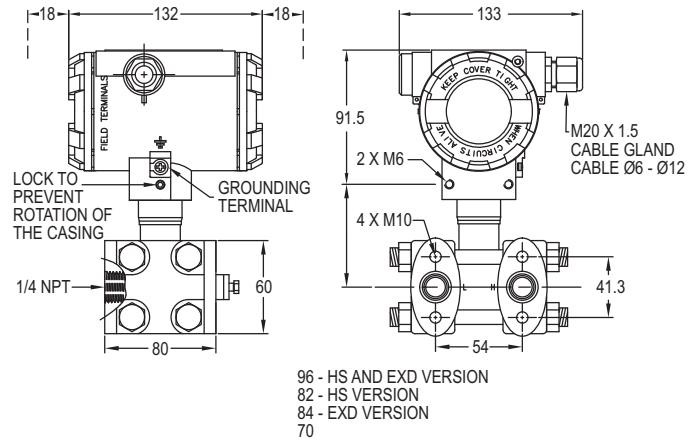

Figure 1 - Series 3500 differential pressure transmitter
8.2.2. The Series 3500 transmitters with connecting cover (Figure 1) are designed for installation on 3-valve or 5-valve manifolds to a 2" pipe or to a flat surface using the mounting bracket shown in Figure 8, and Figure 9.
3500 – Cover flanges with 1/4" female NPT process connections to mount together with a valve manifold (see Figure 1).